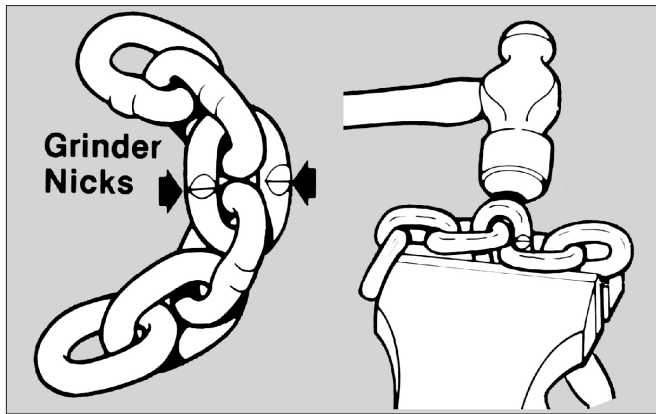

Figure 21. - Cutting Chain by Nicking
1. Use a grinder and nick the link on both sides (Fig. 21), then secure the link in a vise and break off with a hammer.